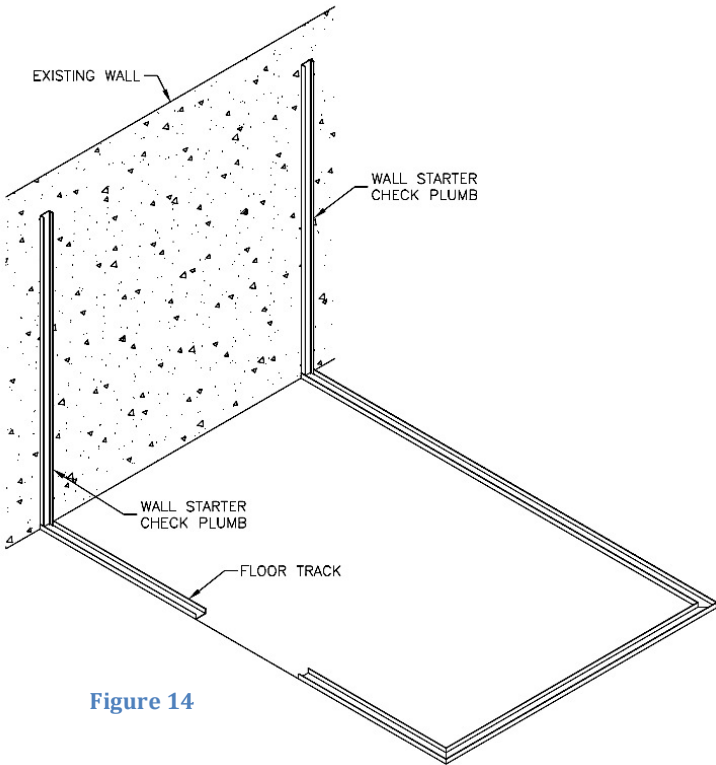

Figure 14
Step 1: Place the wall starter against the wall and insert the end into the floor track. Place a level against the edge of the wall starter and make sure it is plumb. (See Figure 14)